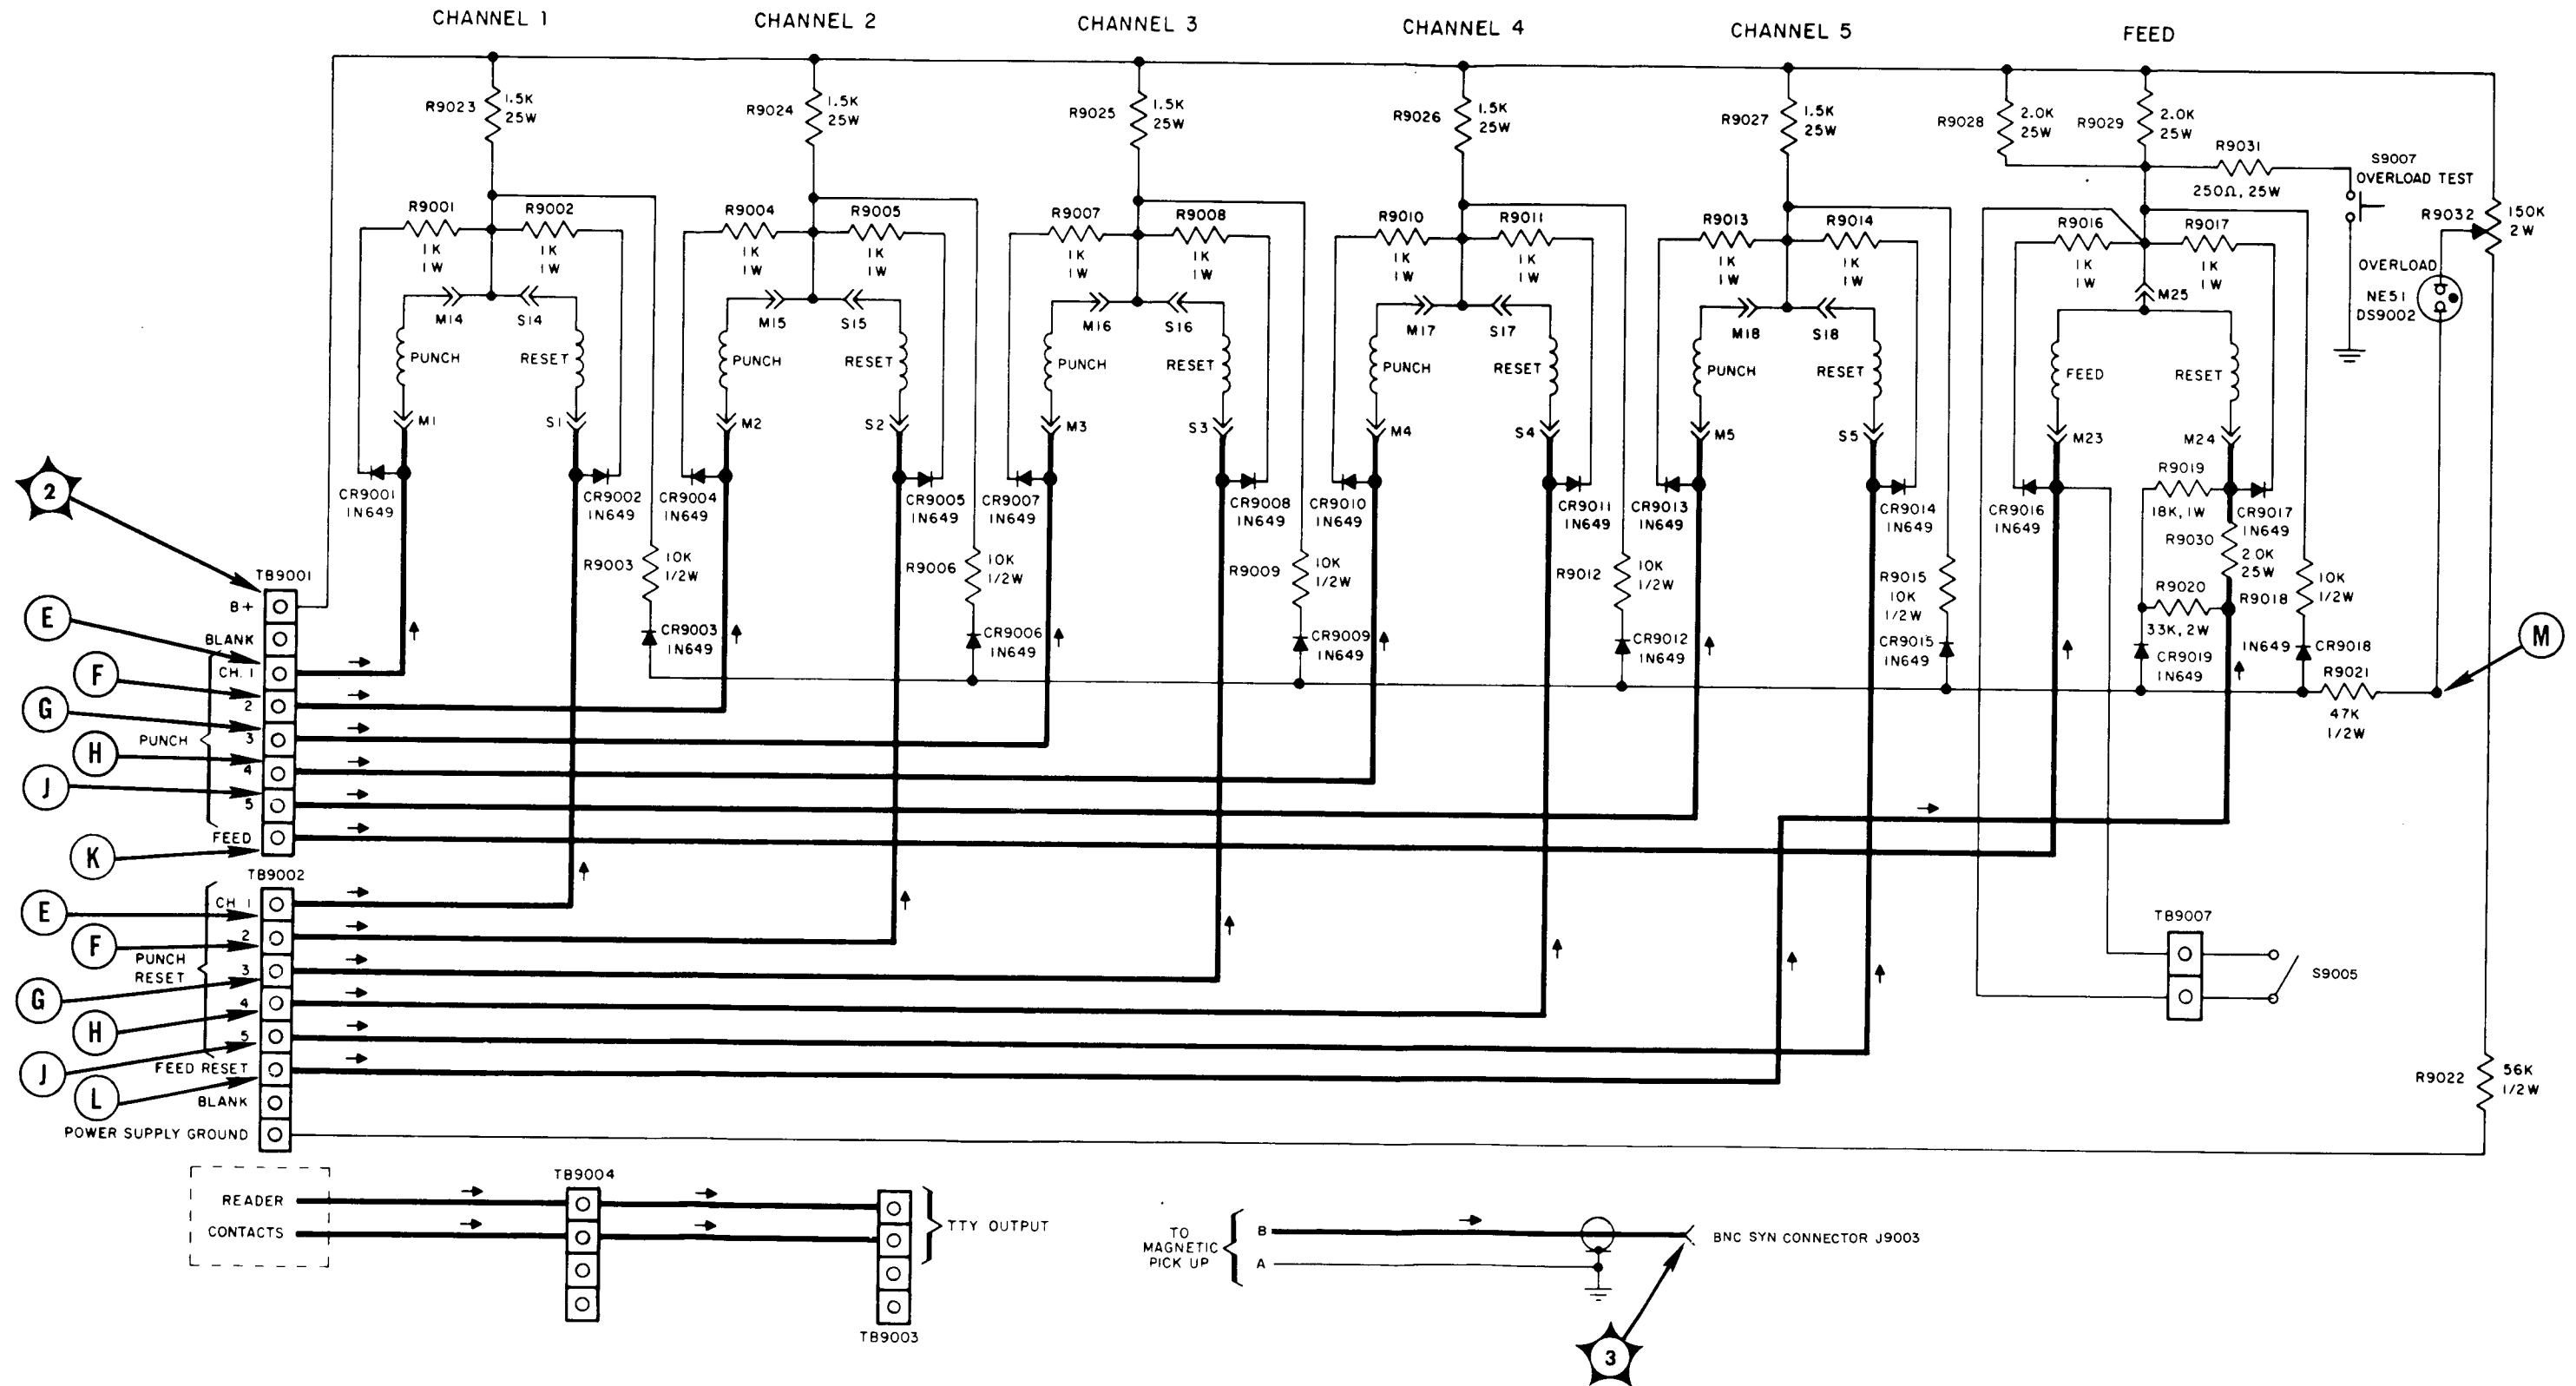

Figure 5-4. Perforator-Reader Input Circuit, Schematic Diagram
(2) SCHEMATIC DIAGRAM. - Figure 5-4 is a schematic diagram of the perforator input circuit.
(2) SCHEMATIC DIAGRAM. - Part of figure 5-4 is a schematic diagram of the perforator showing the magnet coils and the timing circuit.
(3) VOLTAGE AND RESISTANCE DIAGRAMS. - Not applicable.